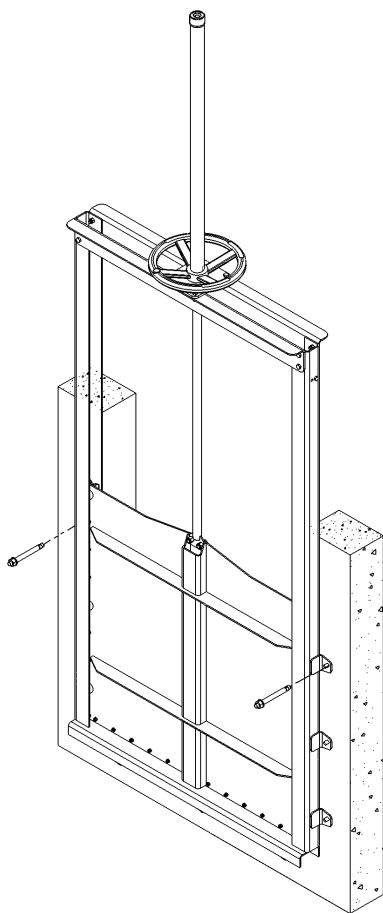

Figure 13
- Drill and install an anchor bolt on each side of the gate. After installing the first anchor bolt, and prior to drilling the hole on the other side, make sure the frame is perfectly leveled (see Figure 13).